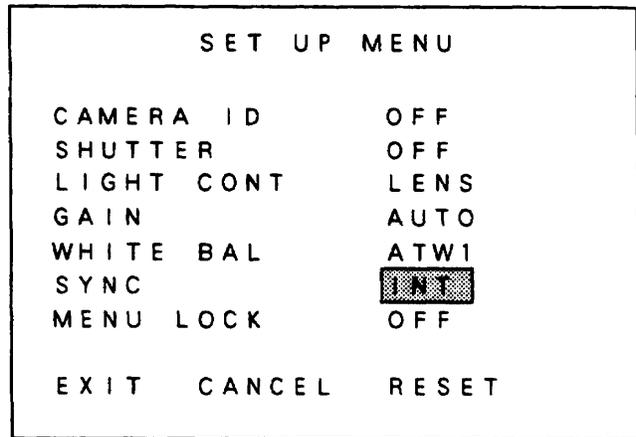
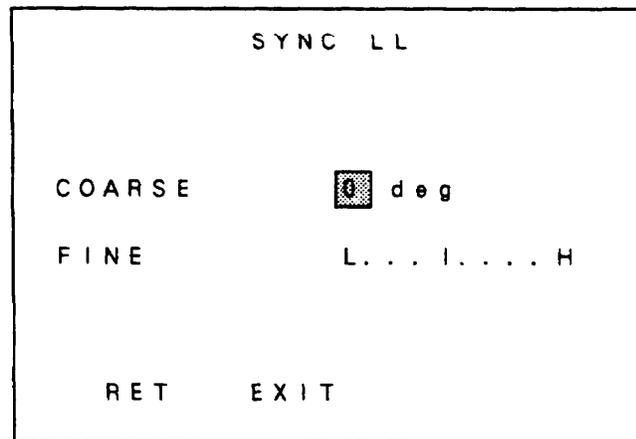

Fig. 7-20
Fig. 7-21
- (1) Move the cursor to the position shown in Fig. 7-20. Using the R and L switches, enter INT or LL in the SYNC item.
- (2) INT entry: The camera is put in the internal sync mode.
- (3) LL entry: The camera is put in the line lock mode. Press the E switch and the screen will go to the phase adjustment mode as shown in Fig. 7-21.